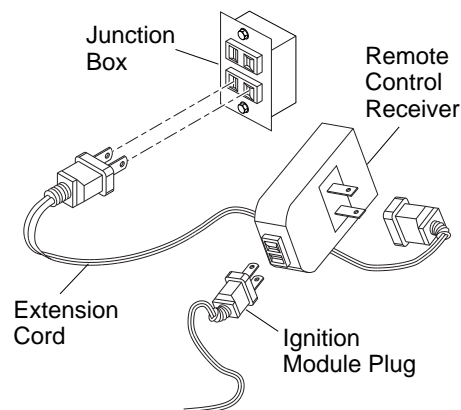

Figure 42 - Installing the WRC Remote Receiver
1. The WRC model receiver does not require a battery. The receiver can be installed by first plugging the short extension cord into the fireplace junction box. Then plug the receiver unit into the extension cord. Finally plug the ignition module plug into the receiver unit (see Figure 42).